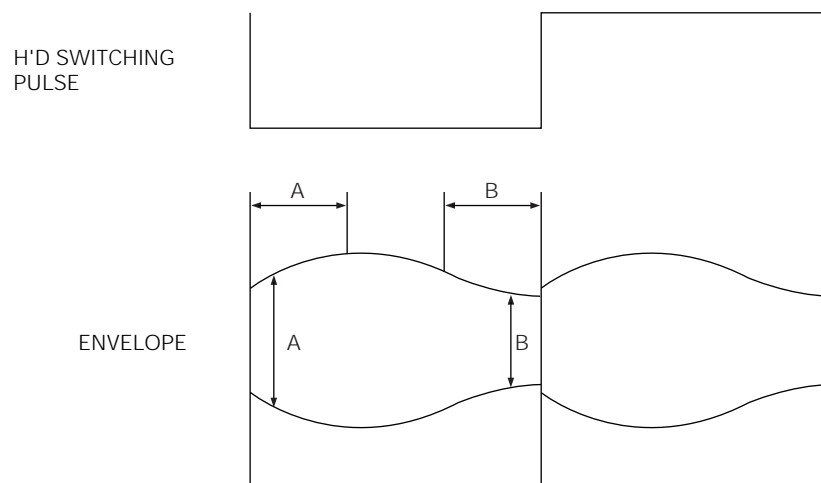

Fig. 4-66 Adjustment Points
4. If the section A in Fig. 4-66 does not meet the specification, adjust the S-guide roller up or down.
5. If the section B in Fig. 4-66 does not meet the specification, adjust T-guide roller up or down.